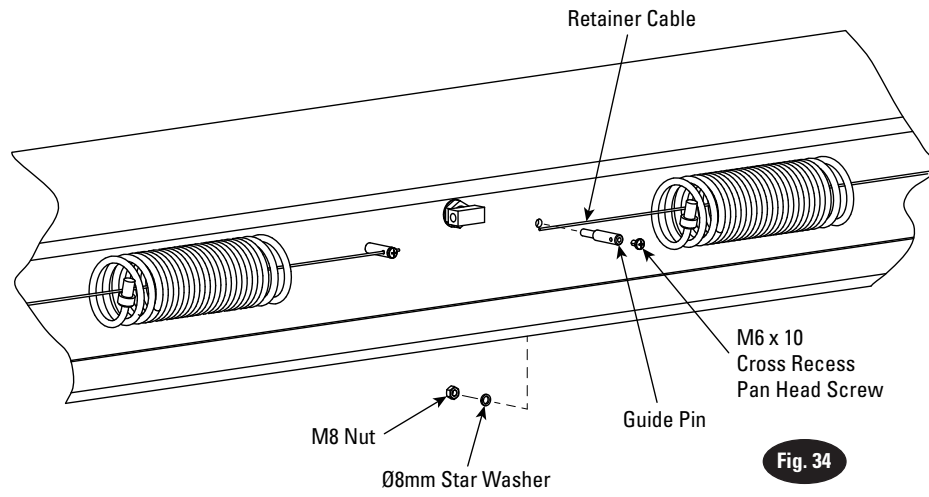

Fig. 34
- A. Attach retainer brackets for the rear recoil hose with M8 x 30 Lg. hex cap screw, flat washer, lock washer and nut, Fig. 34.
- B. Insert retainer cable through coils of recoil hose, Fig. 34. Run a 1/4"-20NC hex nut down onto each end of retainer cable. Insert each end of cable into retainer brackets. Secure each cable end with another 1/4"-20NC hex nut. Tighten jam nuts, Fig. 34.
- A. Insert retainer cable through coils of recoil hose, Fig. 34. Connect one end of recoil hose to coupling welded on rolling jack, Fig. 37 and 38.